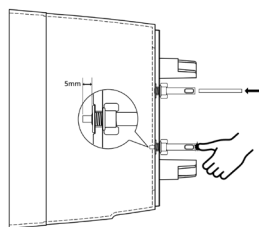

Figure 8
4. Insert the wicks into the wick inserts from below so that the wicks stick out about 0.5 cm at the top (see Fig. 8). The wick should be aligned with the underside of the wick insert.